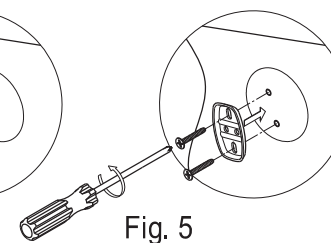

Fig. 5
- Step 5. Screw the mounting plate (with the lips facing out) to the wall with the mounting screws (fig 5).